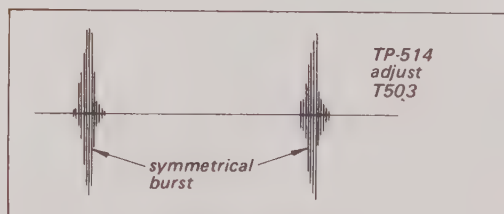

Fig. 8-15. Color APC
3. Adjust the core of T503 for best burst shape. See Fig. 8-15.